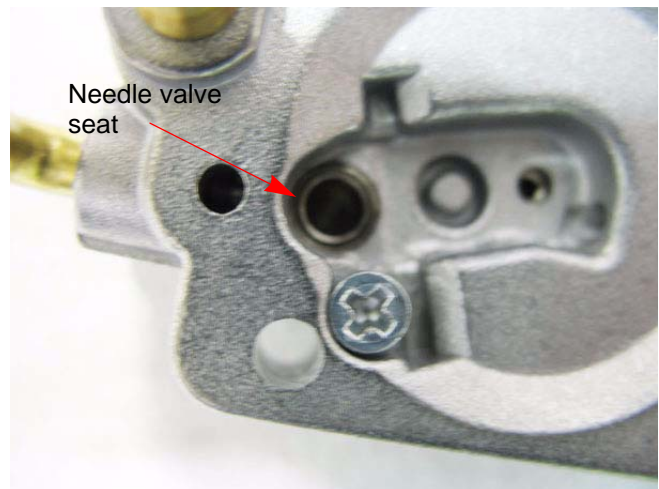

Figure 6.6
- 3e. If the metering valve seat is damaged replace the carburetor. See Figure 6.6.